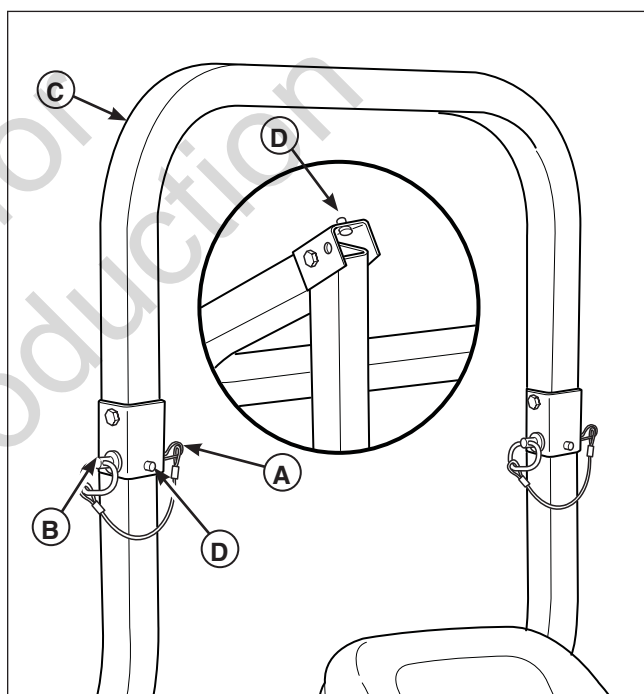
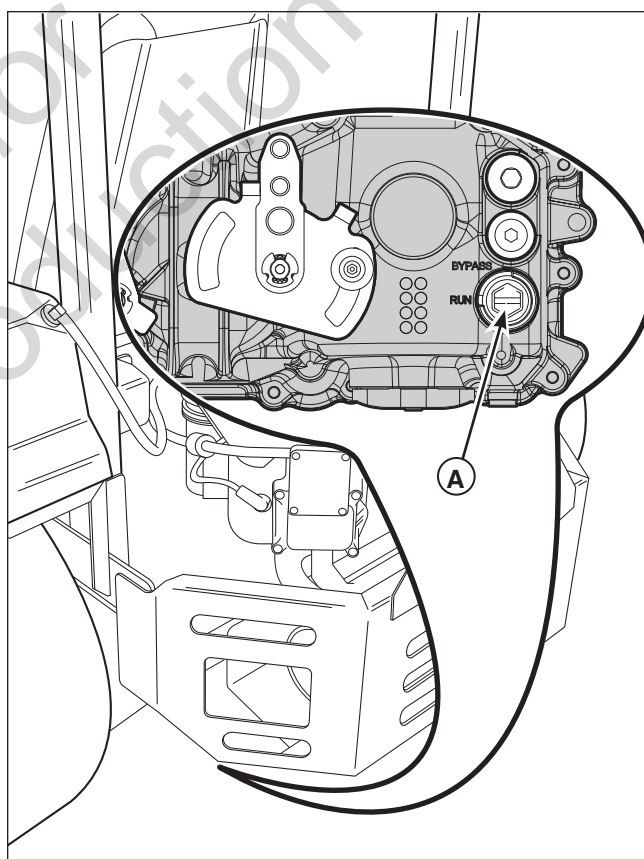

Figure 7. Raise & Lower the Roll Bar
Figure 8. Hydraulic System By-Pass
1. Pull the hair pin clips (A, Figure 7) out of the retainer pins (B).
2. Push or pull the top of the roll bar (C) forward against the rubber stops (D) and remove the retainer pins (B).
3. Lower the roll bar into the down position (see insert, Figure 8).
2. Open the hydraulic bypass valve. To open the bypass valves, turn the bypass valve, which is located on the side of the transmission, **CLOCKWISE**. See Figure 8 for valve location.